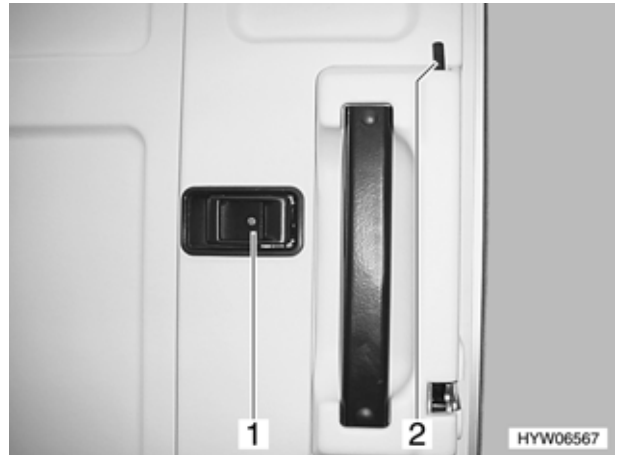

Fig. 27 Door lock of conversion door, inside
- Pull the handle (Fig. 27,1). The lock is unlatched.
- Push the safety knob down (Fig. 27,2).